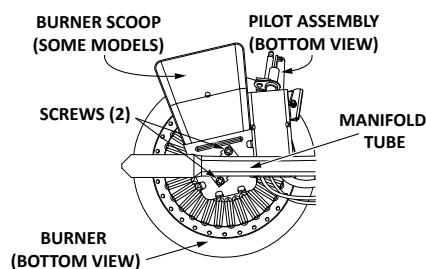

Figure 17.
1. Take off the burner by removing the two (2) screws located underneath the burner (Figure 17.).
2. Remove the burner to access the pilot/thermopile assembly. Remove and keep the screws securing the burner to the manifold (Figure 17.) **IMPORTANT:** DO NOT remove the orifice.
3. Using the pilot screw removed earlier, attach the new pilot/thermopile assembly. Reattach the burner to the manifold using the screws removed earlier. NOTE: If your burner includes a burner scoop, make sure that it is oriented to the pilot side of the manifold tube. See Figure 17 on page 17.